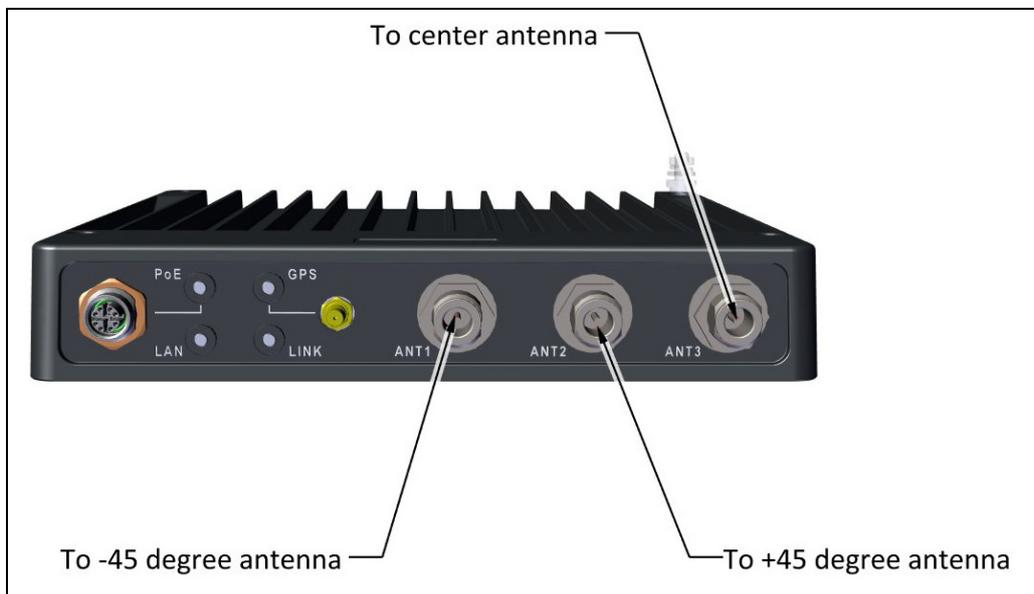

Figure 1-80: TMU antenna port connection scheme
- Connect the antenna ports of the TMU to the antennas as shown in Figure 1-80.